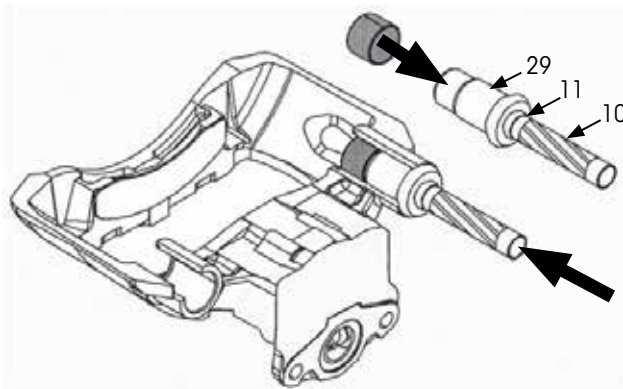

Figure 59: Inserting long guide inner bushing
- A. Assemble and use 10, 11 and 29 to press the inner bushing into the bore of the brake caliper until the tool stops (Figure 59).